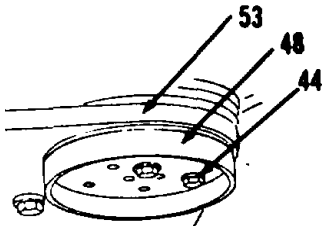

Figure 16-21.
- 14. Measure distance between plate (48) and rear frame (53, Figure 16-21) with a feeler gage. Measure distance at each of four bolt (44) locations.